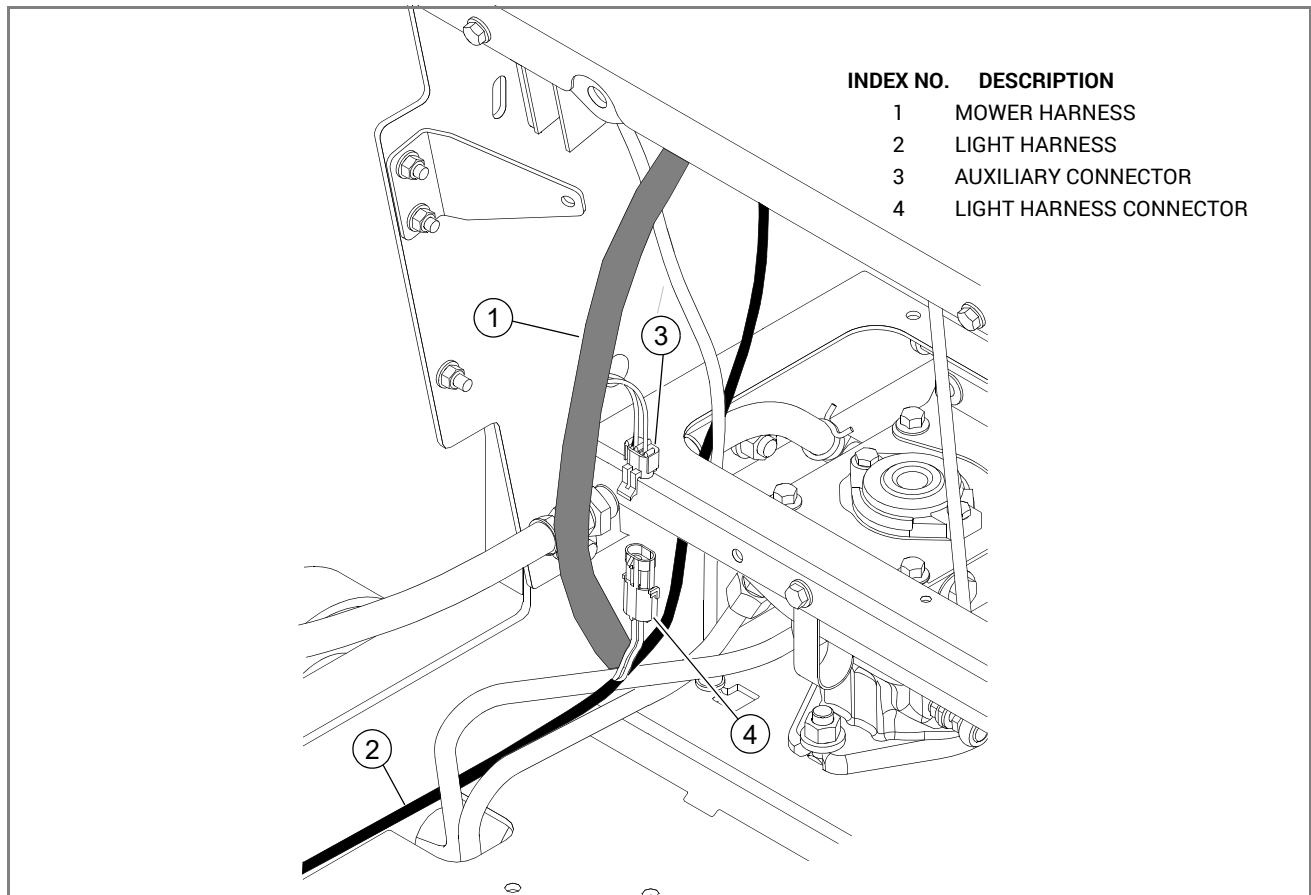

FIG. 6
7. Locate the auxiliary connector in the mower wire harness as shown in FIG. 6. Remove and discard the plug from the auxiliary connector.
- FIG. 6